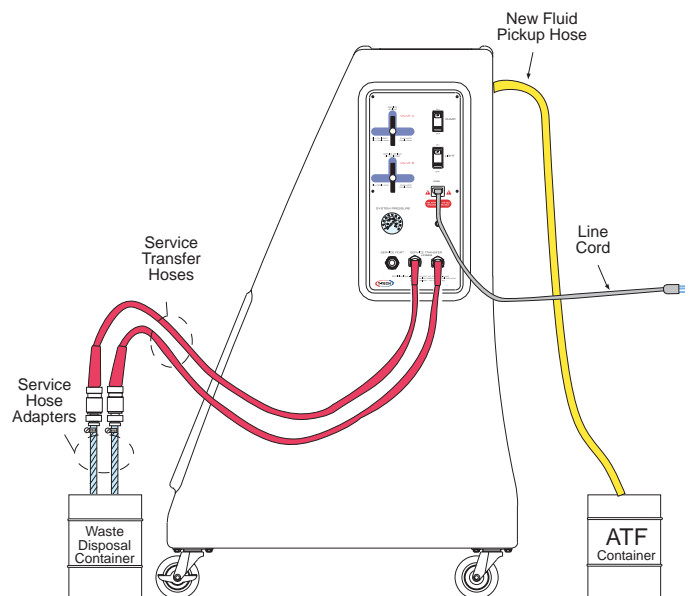

Figure 45. Fill The T-TECH Cylinder
4. Place an empty container under the Drain Pan Adapter to catch the fluid that will be pumped out (see Figure 45).
4. Attach a service hose adapter (see Figure 41) to the end of each service transfer hose (see Figure 45).
5. Insert both hoses into a container suitable for collecting and disposing of old ATF (Figure 45). The container must be capable of holding a minimum of 18 quarts (17.034 liters, the full capacity of the T-TECH cylinder). The flow direction for filling the cylinder with the ON-BOARD pump is shown in Figure 46.
- TT500 only.** If you are using the on board pump, connect the electrical service cord (from the ac connector on the right side of the unit, see Figure 45) to a 110 Vac wall outlet.
4. Attach a service hose adapter (see Figure 41) to the end of each service transfer hose (see Figure 45 or 46).
5. Insert both hoses into a container suitable for collecting and disposing of old ATF (see Figure 45 or 46). The container must be capable of holding a minimum of 18 quarts (17.034 liters, the full capacity of the T-TECH cylinder).